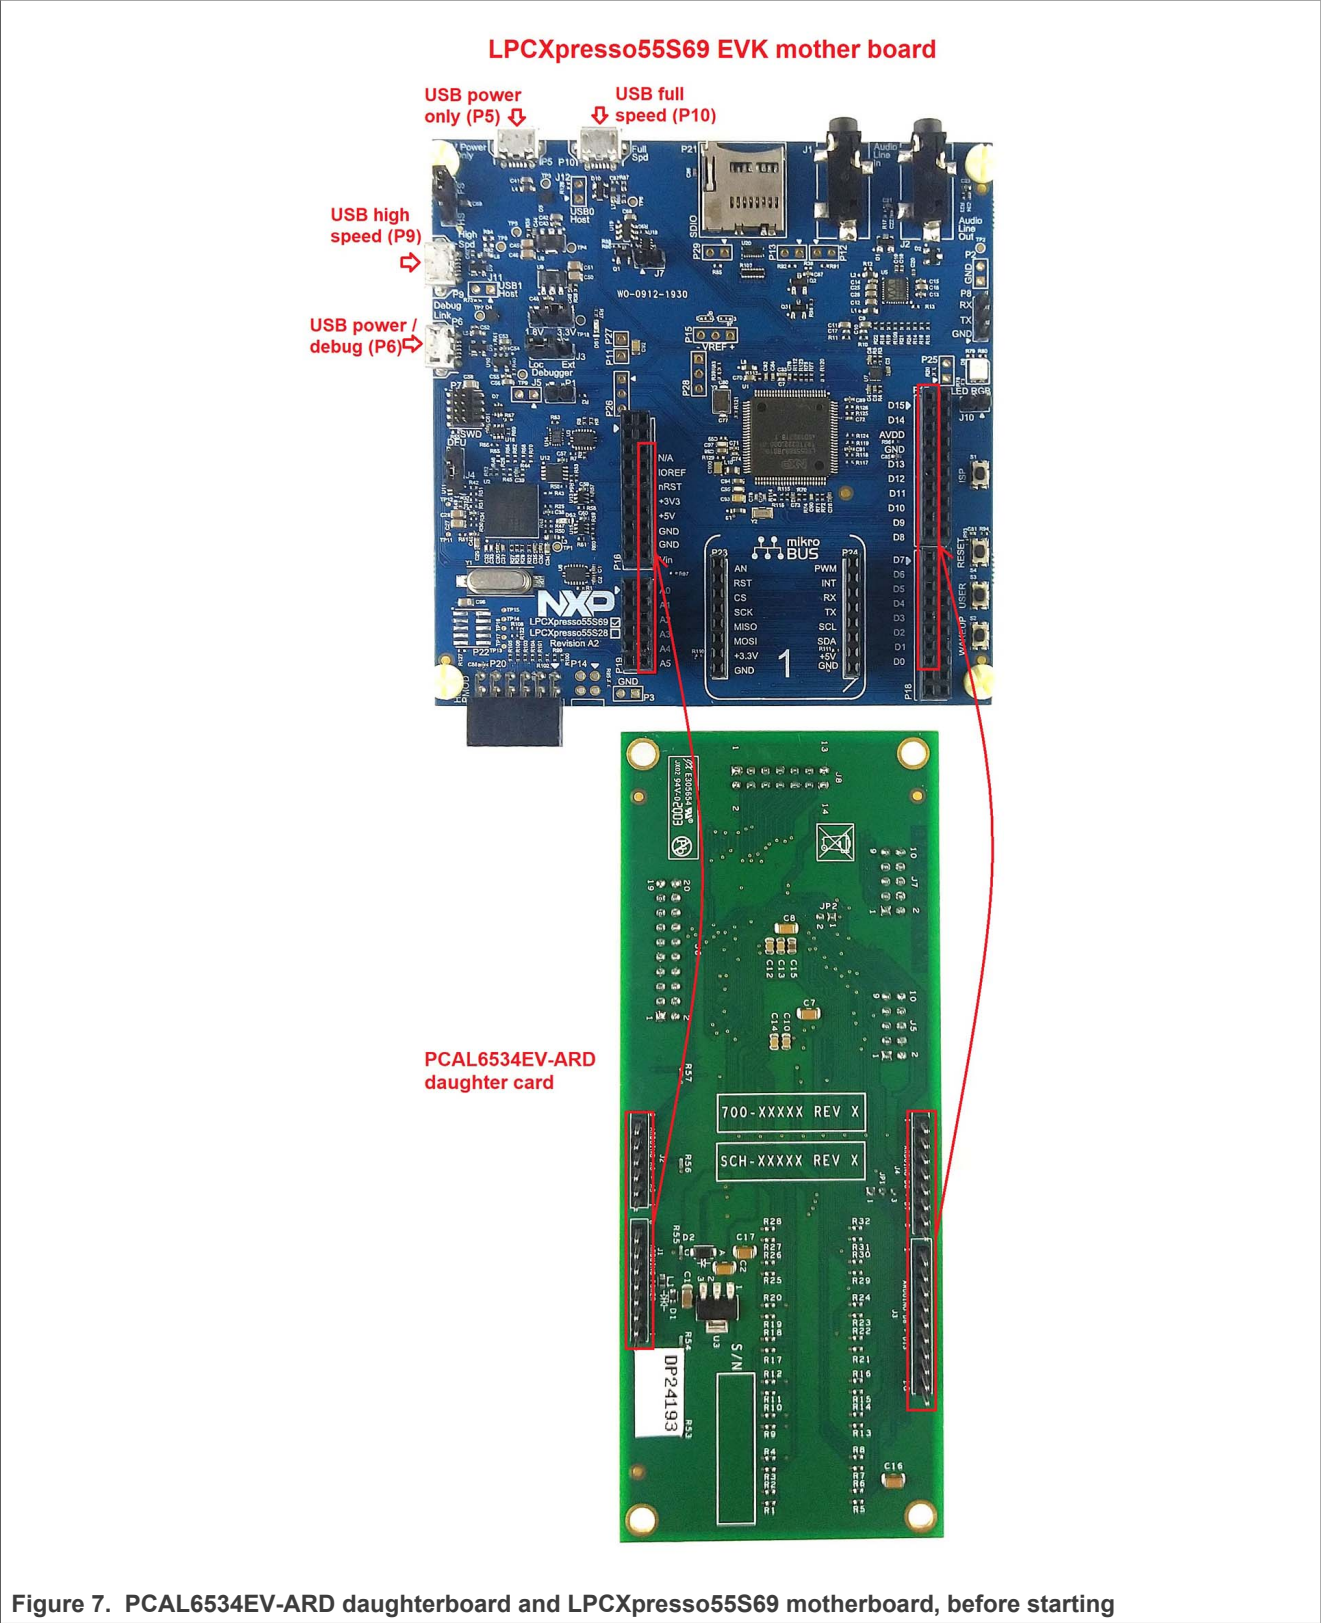

Figure 7. PCAL6534EV-ARD daughterboard and LPCXpresso55S69 motherboard, before starting
Figure 7 shows the required hardware for operation of the PCAL6534EV-ARD and LPCXpresso55S69 EVK board. This configuration consists of:
The following steps describe how to assemble, program, and operate the configuration shown in Figure 7.
1. Insert the PCAL6534EV-ARD daughter card to P16 – P19 connectors located on LPCXpresso55S69 development board (see the marked pins of P16 – P19, Figure 7);